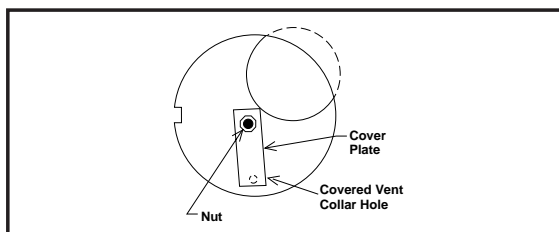

Figure 15. Vent Collar Detail
2. Remove the nut and restrictor plate from the vent collar assembly and discard the restrictor plate. Select the appropriate dilution cover plate as noted with vent kit #903196. Fit the clearance hole in the cover plate over the weld stud. The cover plate must cover the hole(s) on the vent collar assembly. Tighten the nut securely while holding the cover plate in position. (See Figure 15.)